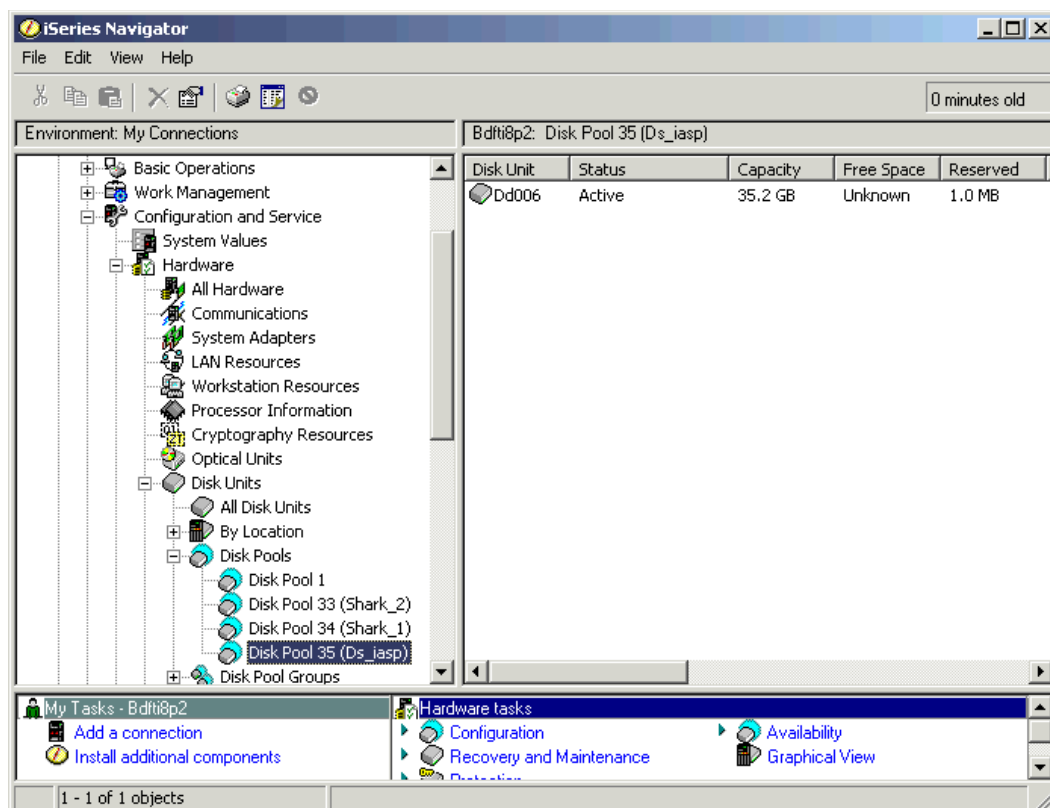

Figure 18-19 New logical volume shown on System i Navigator
16. To see the logical volume, as shown in Figure 18-19, expand **Configuration and Service**, **Hardware**, **Disk Pools** and click the disk pool you just created.